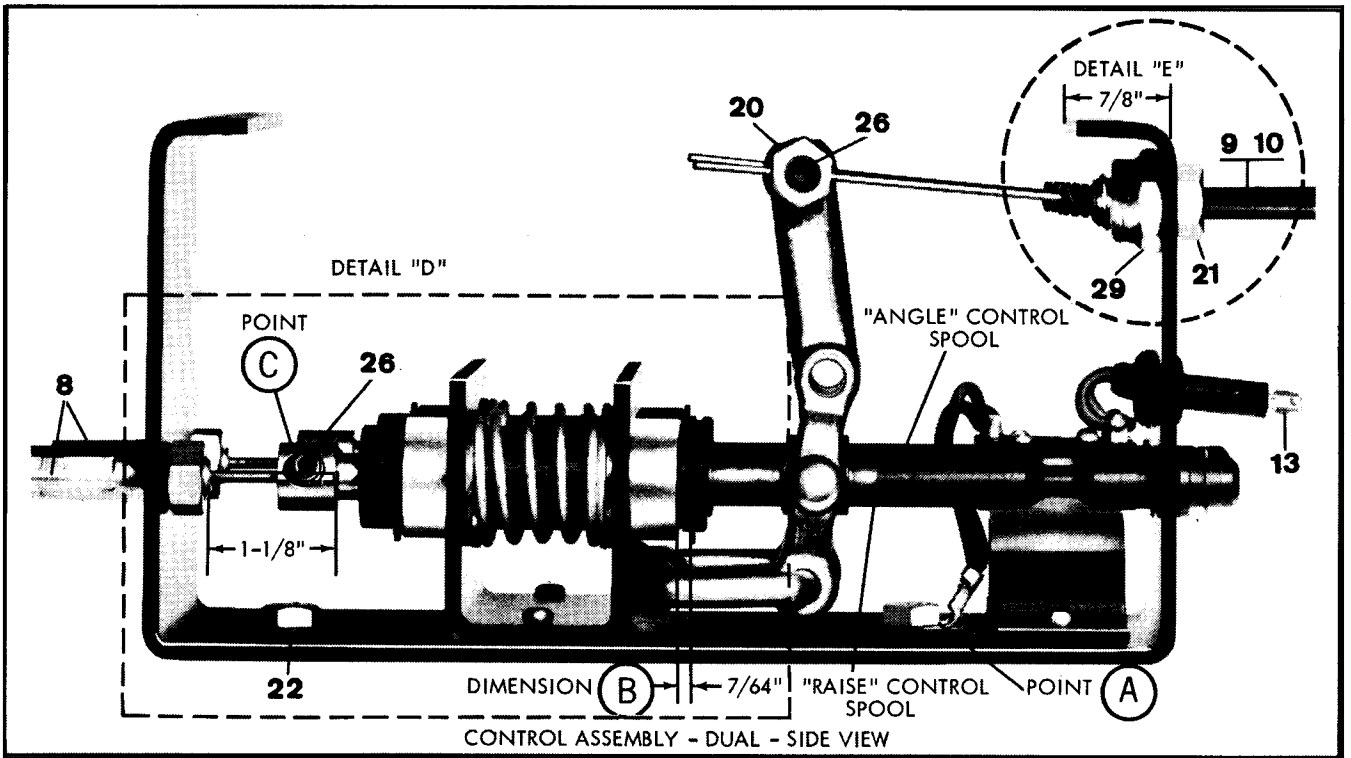
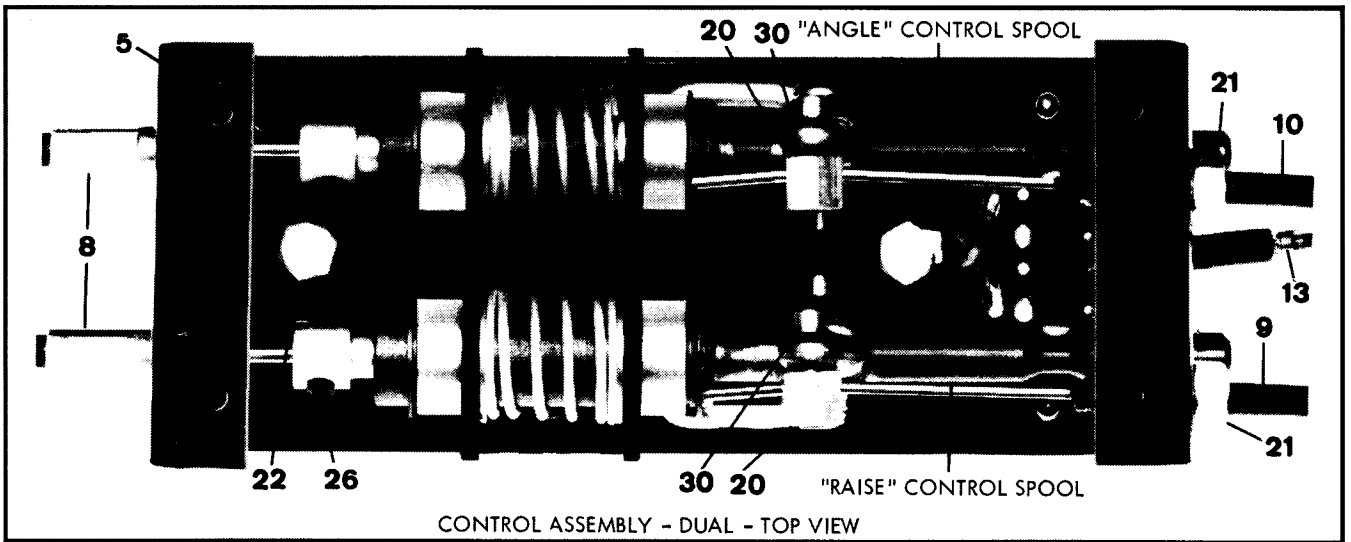

Figure 3
Figure 4
**NOTE:** Refer to Figure 3 and 4.,
- Determine the proper routing of the 3/6" Conduit Assembly (8) and the proper location of the Control Assembly (5) under the hood taking the following into consideration.
**NOTE:** When routing the Conduit Assemblies thru the grille causes unnecessary bends or excessively sharp bends, furnished Grommets (31) can be used to route the Conduit Assemblies thru front sheet metal.
3. Control Assembly (5) must be mounted on a flat surface to prevent distortion.
- Route the Conduit Assemblies (8) as planned thru the grille or front sheet metal to the left side of the engine compartment.
**NOTE:** When routing the Conduit Assemblies thru the front sheet metal, locate and drill 9/16" holes and install Grommets (31).
- When necessary, install the Mounting Angle (7) or custom mounting bracket in the engine compartment at the planned location using two (2) 1/4 x 3/4" bolts and locknuts (22 and 23).
- Install the Control Assembly (5) at the planned location using two (2) 1/4 x 3/4" bolts and locknuts (22 and 23), inserting the bolt at point "A" thru the switch ground wire terminal.
- NOTE:** Refer to Figure 3 - Detail "D" for next two steps.
- Insert the Control Wire connected to the bottom valve spool on the Super Electrolift into the "Raise" Control Spool and attach the Conduit to the Control Assembly Housing with a 5/16" finish nut (25).
**NOTE;** Refer to Figure 3 - Detail "D".
- Attach the Conduit Assembly (8) connected to the top spool on the Super Electrolift to the "Angle" Control Spool with a 5/16" finish nut (25).
**NOTE:** Refer to Figures 4, 5 and 6 for the following steps.
NOTE: Refer to Figure 3 - Detail "E" for following steps.
NOTE: Refer to Figure 4 for the following steps.